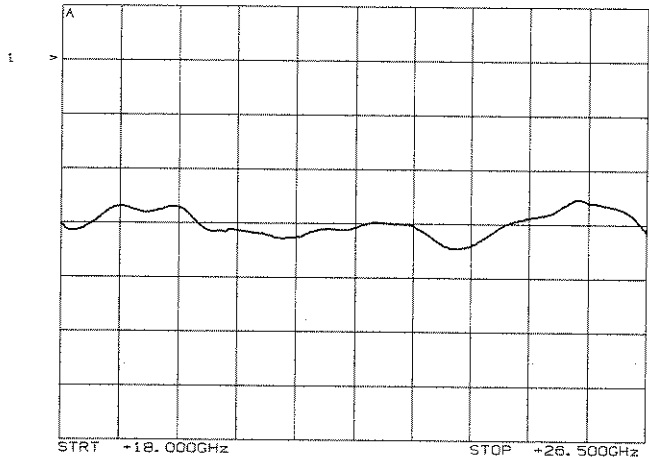

Figure 5-20. Identifying Breakpoint
8. Identify the breakpoint, refer to Figure 5-20. Adjust A5R34 (BP1) so that the adjustment point lies on the breakpoint (as closely as possible).